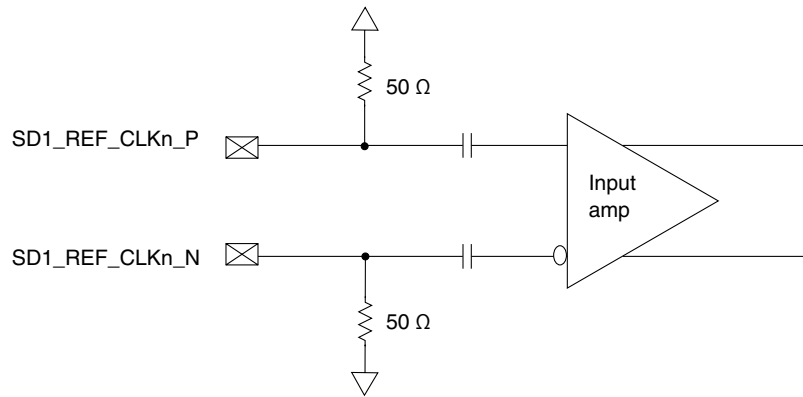

Figure 88. Receiver of SerDes reference clocks
- The SD1_REF_CLKn_P and SD1_REF_CLKn_N are internally AC-coupled differential inputs as shown in Figure 88. Each differential clock input (SD1_REF_CLKn_P or SD1_REF_CLKn_N) has on-chip 50- Ω termination to SGNDn followed by on-chip AC-coupling.
- For an external DC-coupled connection, as described in Figure 88, the maximum average current requirements set the requirement for average voltage (common mode voltage) as between 100 mV and 400 mV.